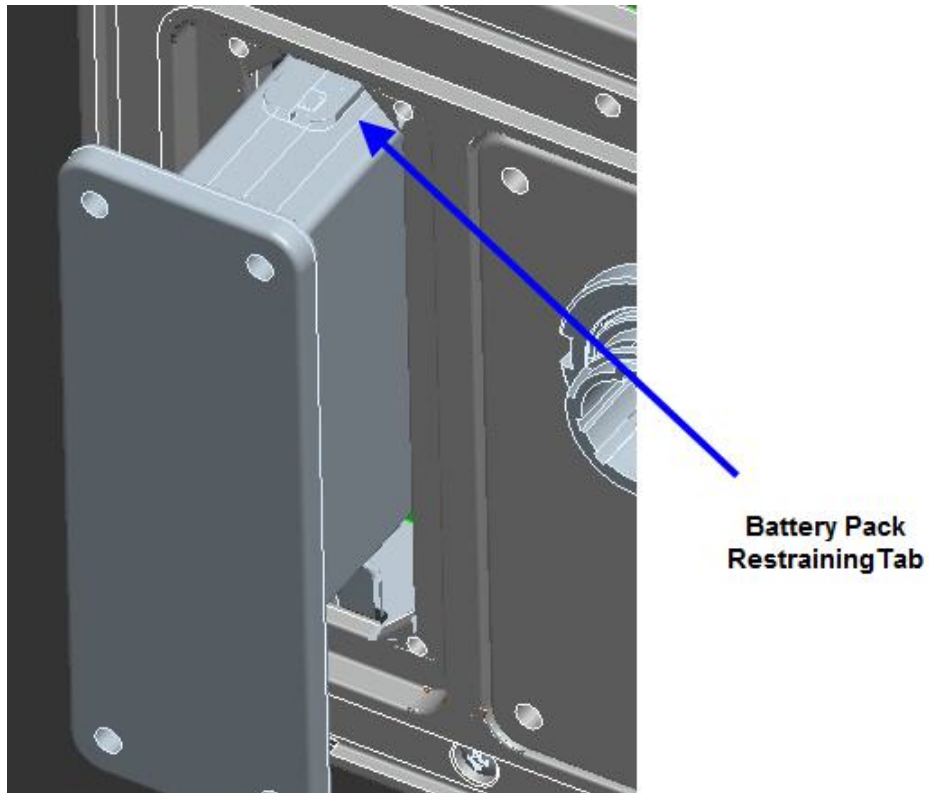

Figure 27. Battery Pack Restraining Tab
2. The battery pack is held in place by a restraining tab, as shown in **Figure 27** on page 53. Gently press the tab to release the battery pack.